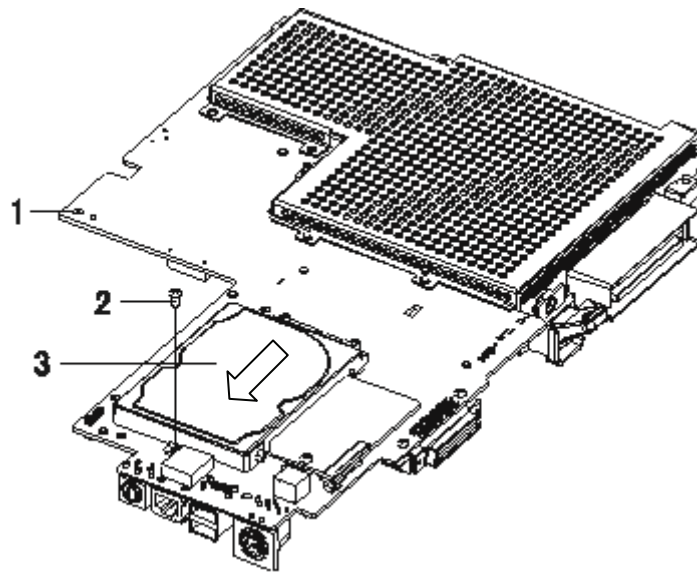

Figure 4-34 Removing HDD
- 2) As shown in Figure 4-34, remove M3×6 screw, and pull out the HDD and HDD fixing part horizontally;